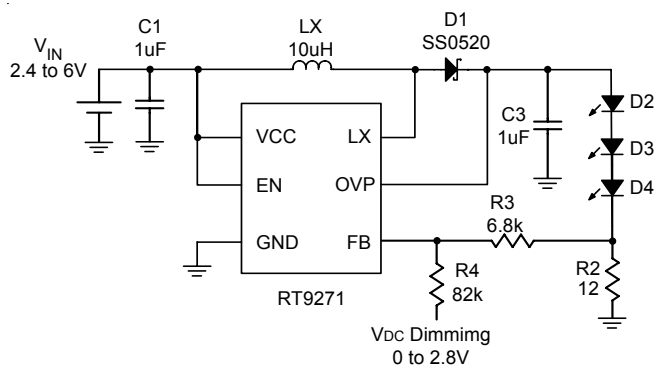
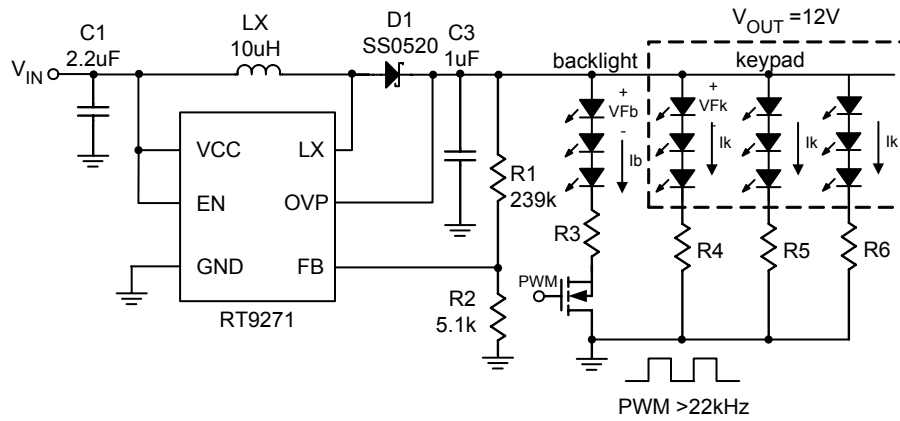

Figure 5. Dimming Control Using a DC Voltage
Figure 10. Constant output voltage for backlight and keypad
Using a variable DC voltage to adjust the brightness is a popular method in some applications. The dimming control using a DC voltage circuit is shown in Figure 5. According to the Superposition Theorem, as the DC voltage increases, the voltage contributed to V_{FB} increases and the voltage drop on R2 decreases, i.e. the LED current decreases. For example, if the V_{DC} range is from 0V to 2.8V, the selection of resistors in Figure 5 sets dimming control of LED current from 20mA to 0mA.
Figure 10 is another application of RT9271 for backlight and keypad. Setting the divider-resistors (R1 & R2) is to get a constant output voltage that depends on the forward voltage and the numbers of series-LEDs. It can turn on backlight of main panel and keypad at the same time. Applying different duty cycle of PWM signal above 22kHz to the backlight's switch can also control the brightness of main panel's backlight. The keypad's backlight will keep the same brightness during the dimming control of main panel. Otherwise the brightness of keypad's s backlight can also change during the dimming control of main panel by using the application circuit as figure 5. The following formula (4)(5) can determine the resistors of Figure 10.